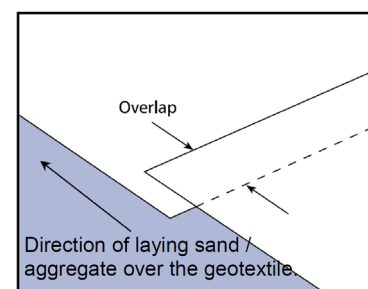

Figure 1
- To prevent the overlapping fabrics from becoming separated as aggregate is pushed forward; the ‘continuation’ roll must be tucked under the material already in place. (See Figure 1)